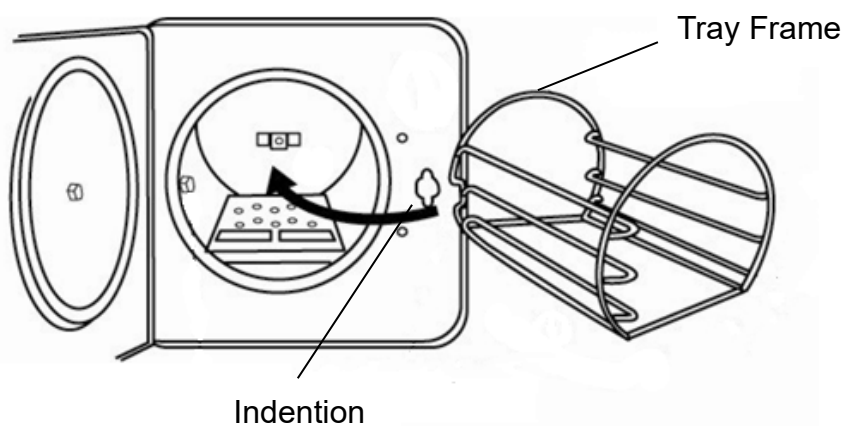

Figure 32
F. Install the tray frame as shown in Figure 32 (standard accessory)
CAUTION: The frame should be installed as in Figure 32 below. The indentation of the frame will pass the bushing in the chamber.